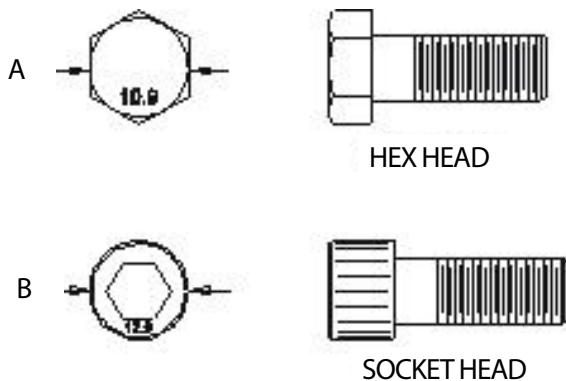

FIGURE 5-2
1. Always replace bolts and nuts with the same size and class of fastener. Replacement fasteners can be ordered from the LaBounty Parts Department to ensure the correct part is used (refer to Figure 5-2). Unless otherwise specified, use class 10.9 metric hex head capscrews, class 10.9 metric flat head capscrews, and class 12.9 metric socket head capscrews.